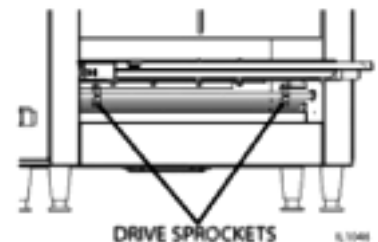

Fig 3. Conveyor Drive Sprockets
3. Now that the links have been unhooked, the conveyor can now be carefully removed from the oven. Standing at one end of the oven. Starting with the end on the bottom, roll the conveyor belt until it has been totally removed. Take careful notice being sure not to damage the heater tubes, and working it over the drive sprockets, (see Figure 3).
6. Reinstall conveyor belt by first laying the belt along the bottom of the oven cavity making sure the hooks on the sides are facing the inside and ends of the hooks will be pointing away from the direction of the belt so not to catch on any internal components once put back into operating. Also, being sure to properly align the belt over the conveyor drive sprockets shown in Fig 3.